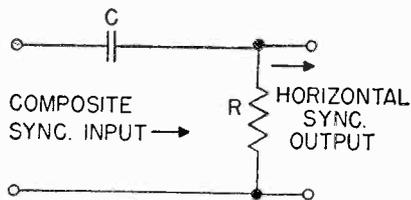

Fig. 3 Differentiating circuit as used in television receivers to separate the horizontal sync pulses from the composite sync signal.
**Fig. 3** The taps are made by twisting a pigtail of wire and bringing it to the edge of the winding between layers of insulating paper. The taps may be tagged or identified by their length.
turns must be wound on the secondary with taps as shown in Table 1. The taps are made by twisting a pigtail of wire as shown in Fig. 3, and bringing the pigtail to the edge of the winding between layers of insulating paper. As a means of identification, each succeeding pigtail may be made longer than the one preceding it.
The separation of the horizontal pulses takes place at the output of the sync separator. Since the horizontal pulse is much shorter in duration than the vertical pulse, a high pass filter will select the former and discriminate against the low frequency vertical pulse. Such a high pass filter is known as a differentiating circuit and is shown in Fig. 3. This network consists of a capacitance and resistance combination, the capacitance being in series with the signal input and the resistance in shunt across the output. The impedance of the capacitance relative to the resistance of the resistor is small at the horizontal line-scanning frequency of 15,750 cps. The horizontal pulses are, therefore, passed by the capacitor and develop correspondingly large signal voltages across the resistor. The relative impedance of the capacitor to the lower field-scanning frequency of 60 cps is much higher than for the hori-
Fig. 3 A partial circuit diagram of the self-balancing type of phase inverter. In this circuit negative feedback is used to balance the signals on the grids of the two tubes used in the phase inverter.